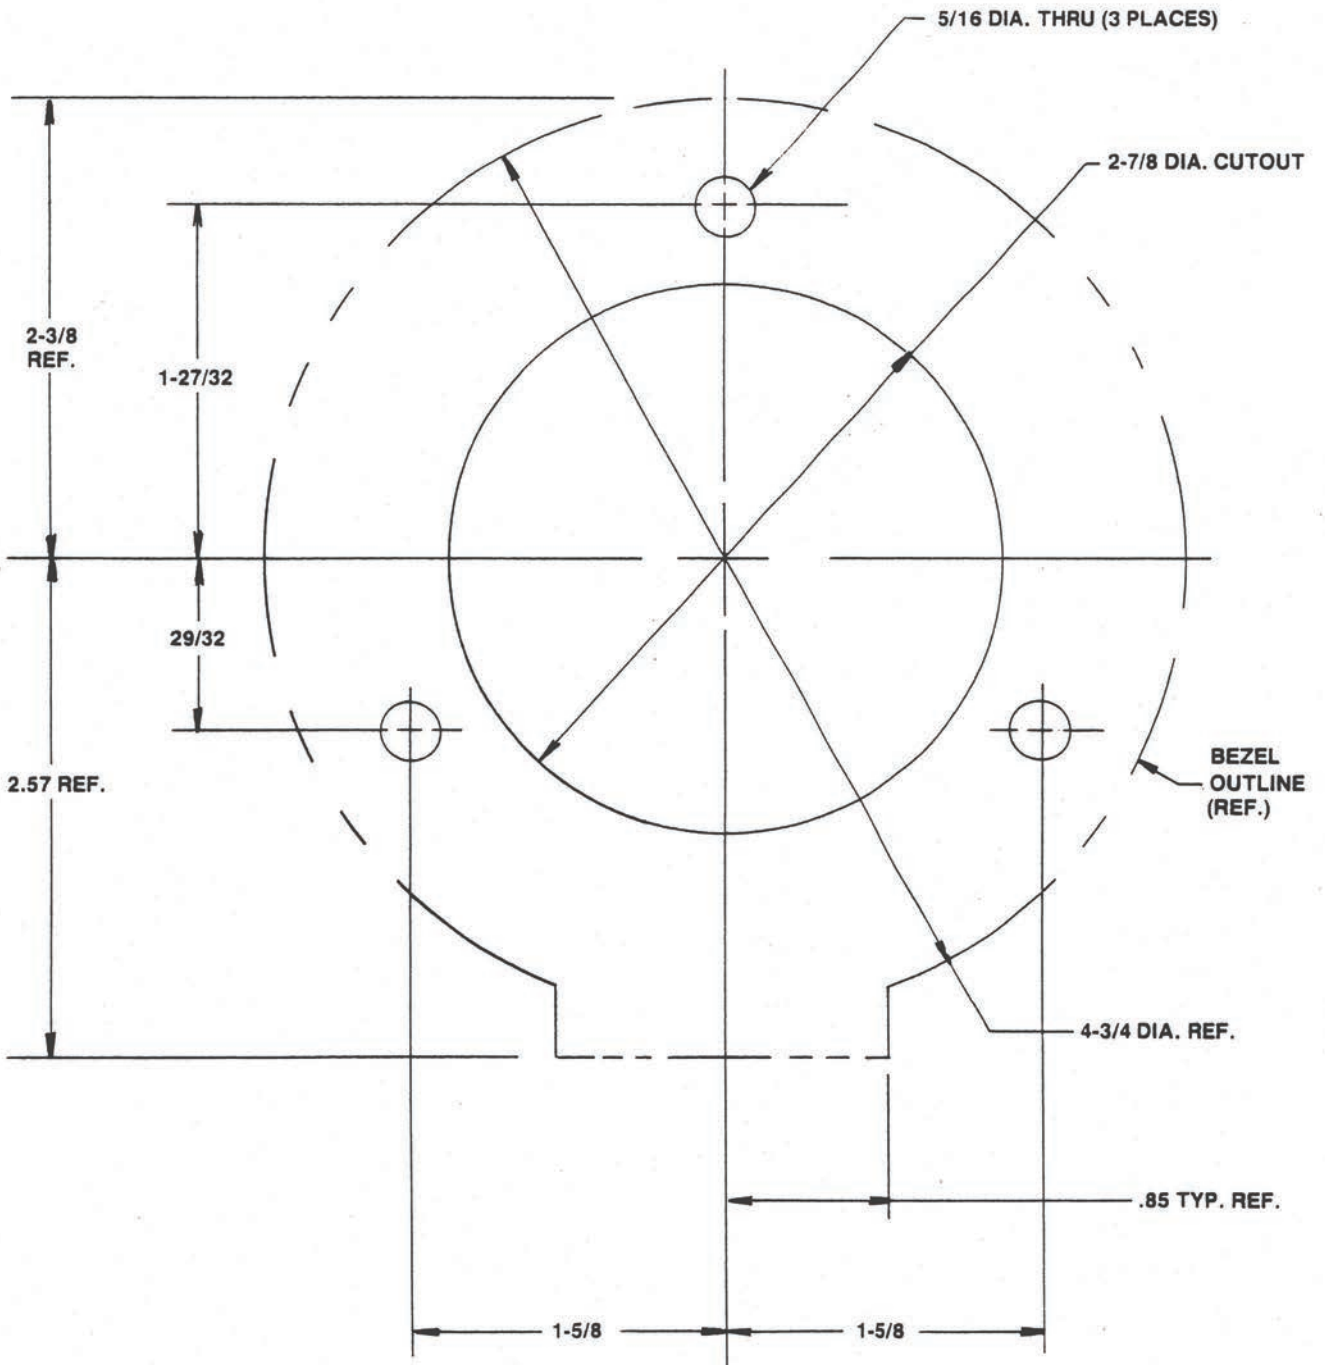

Figure 3.
**STEP 2.** Position the template (Figure 3, page 7) on the console or dashboard at the location previously marked, and drill three holes 5/16" diameter and one hole 2-7/8" diameter.